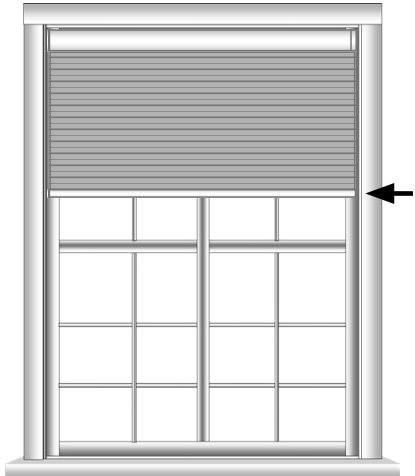

Fig. 6
1. Move the shade to a position between the upper and lower limits. Press and release a directional button to set the shade in motion. Press the opposite directional button to stop the shade. (Fig. 6)